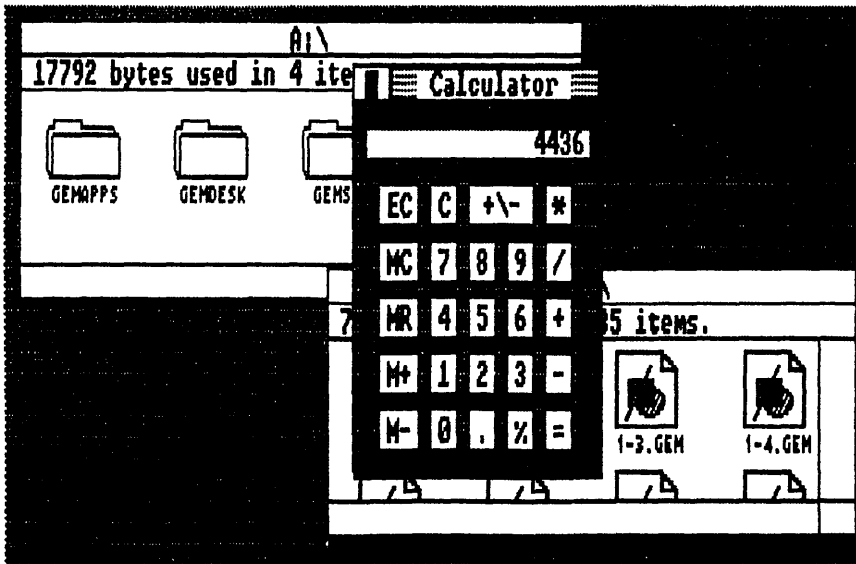

Fig. 1-14. A multifunction calculator appears when the Calculator desk accessory is selected.
**Using the Calculator.** There are two powerful keys on the GEM Desktop calculator (Fig. 1-14) that aren't found on many conventional calculators: